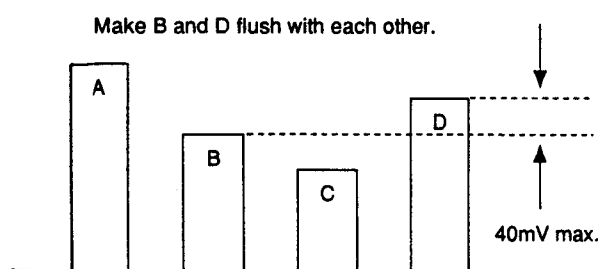

Fig. 5-27
- 2) Connect the probe of an oscilloscope to IC404 ⑩ PIN or TP402.
- 4) Adjust **CHROMA PAL NOR** so that the peaks of waveforms will be flush with each other. (Fig.5-27)
- 2) Adjust **CHROMA PAL ACC OFF** in the same way as 10-15-4). (Fig.5-27)